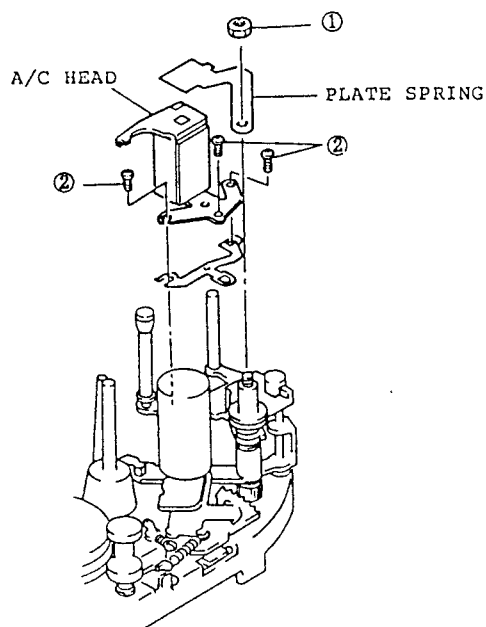

Fig. 2-56
1. Remove one (1) nut holding the plate spring. (See Fig. 2-56)
2. Remove three (3) screws holding the A/C head.